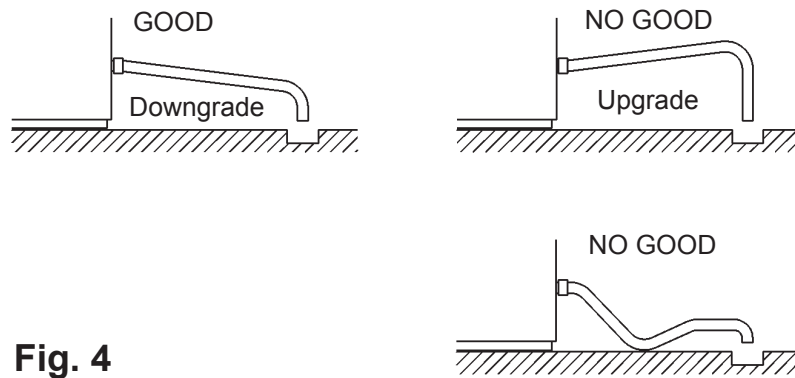

Fig. 4
- * To prevent a backflow into the Storage Bin, the outlet hose must be laid as shown in Fig. 4.